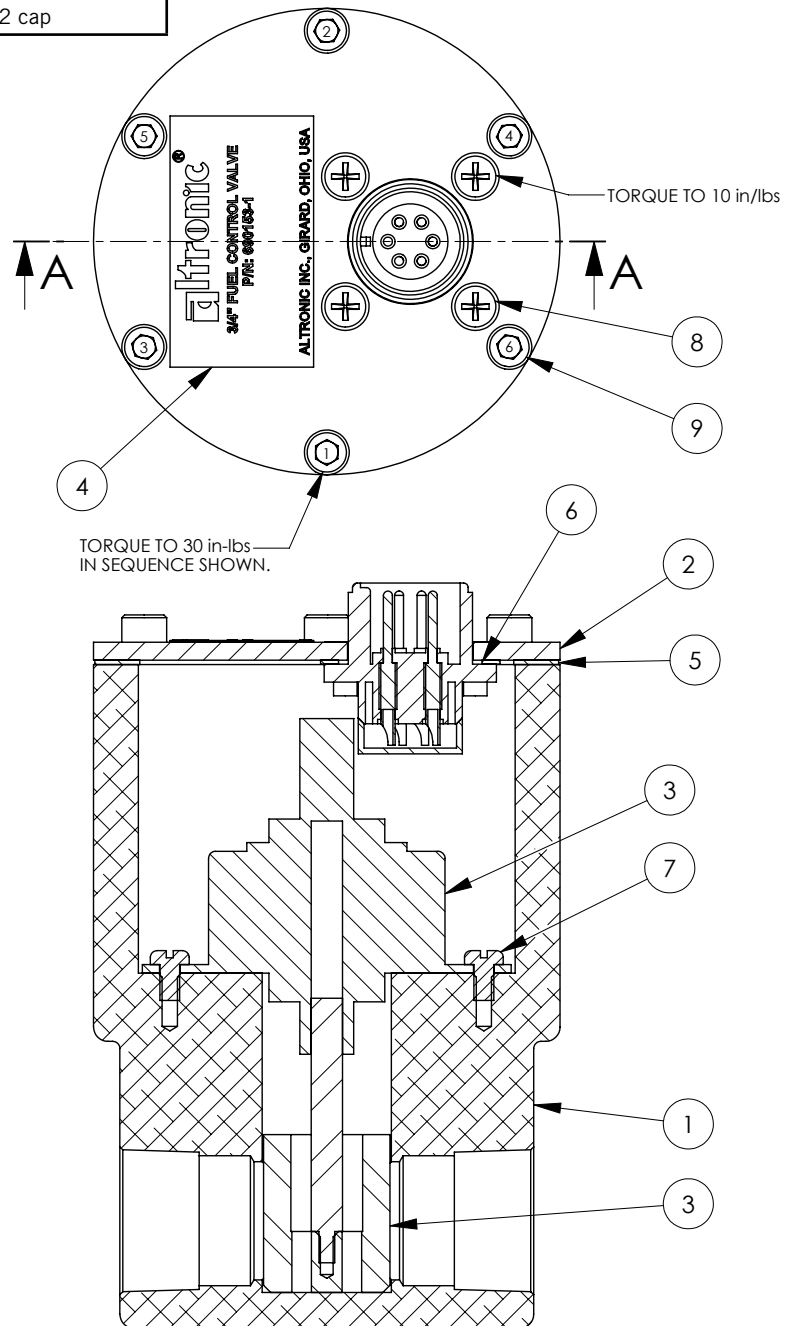

FIG. 3 Flow Curve for 690153-1
- 5.1 *See the flow capacity curve, FIG. 3, in the drawings section.*